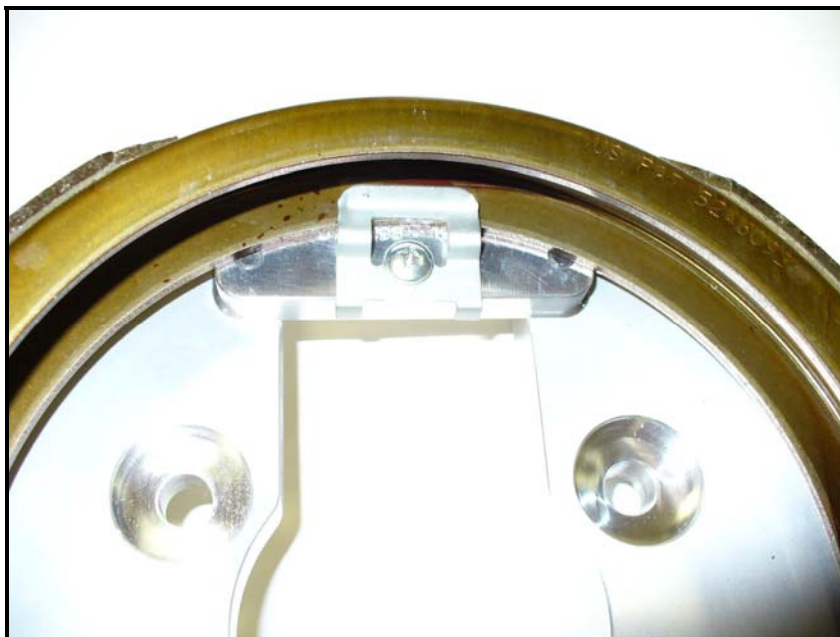

Figure 3: Retainer clip in place
7. Slip the flats on the park shoe onto the actuator and slide them up into position. Place the retainer brace in the rim of the shoe and slip it onto the shoe. This procedure is similar for all SS4, Pro+, and Ext+ Systems. See, Figure 3, for reference.